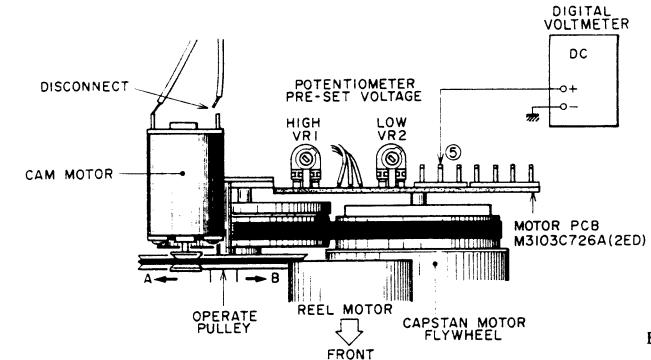
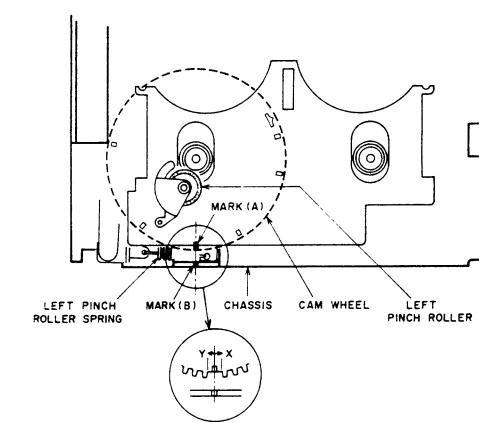

Fig. 5-4
Fig. 5-5
5-4. POTENTIOMETER PRESET VOLTAGE ADJUSTMENT (Refer to Fig. 5-4 to 5-5)
- b. Connect the digital voltmeter as shown in Fig. 5-4.
- c. With power ON, adjust VR2 so that the voltage reading will be 0.94V (DC).
- b. With power ON, adjust VR1 so that the voltage reading will be 8.08V (DC).
- b. Adjust VR1 slightly so that the center of Marker (A) coincides with the center of Marker (B) (should be within the range between X and Y) at STOP Mode as shown in Fig. 5-5.